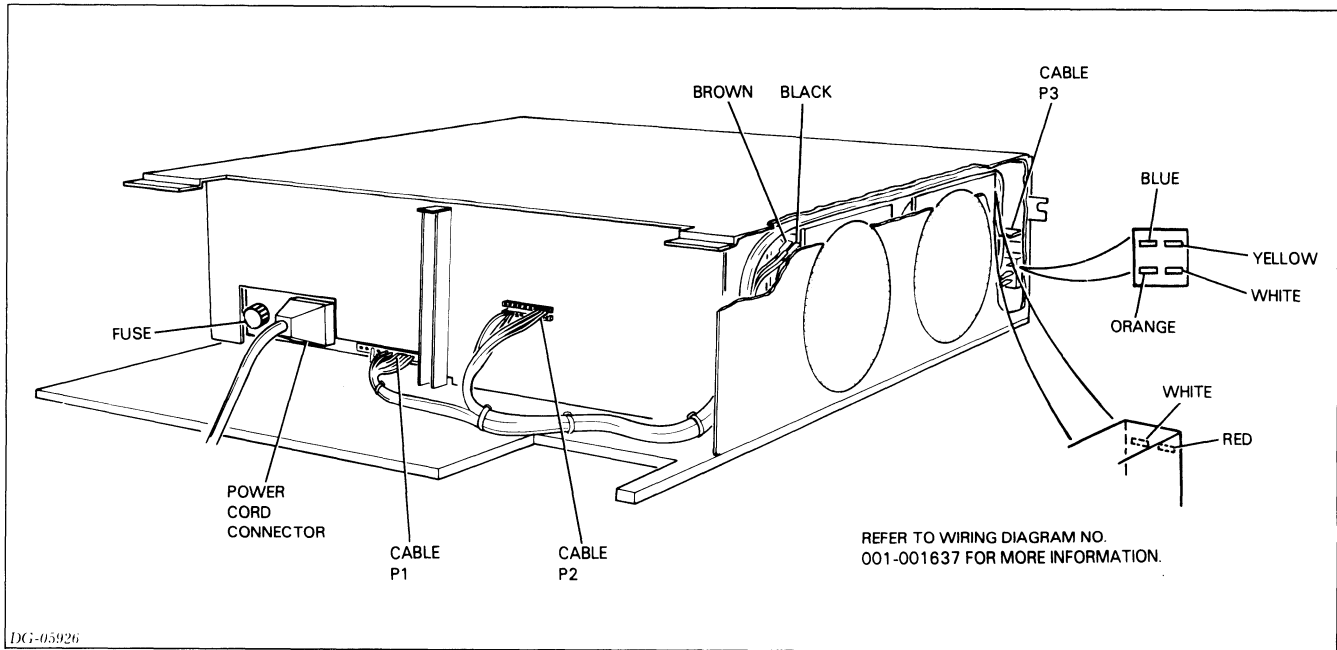

Figure 12.21 5-slot wiring harness
2. Remove cable P3 from the console PCB, the 4 wires from the power switch, and the 4 wires from the fans (2 wires per fan). (See Figure 12.21 and wiring diagram No. 001-001637.)
4. Being very careful to follow the color scheme shown in Figure 12.21, connect the new wiring harness to the fans (2 wires per fan), the power switch (4 wires), and the console PCB (cable P3).
5. Pull the 2 remaining cables of the harness (P1 and P2) through the slot in the backpanel and plug them in the appropriate locations. (See Figure 12.21 and wiring diagram No. 001-001637.)